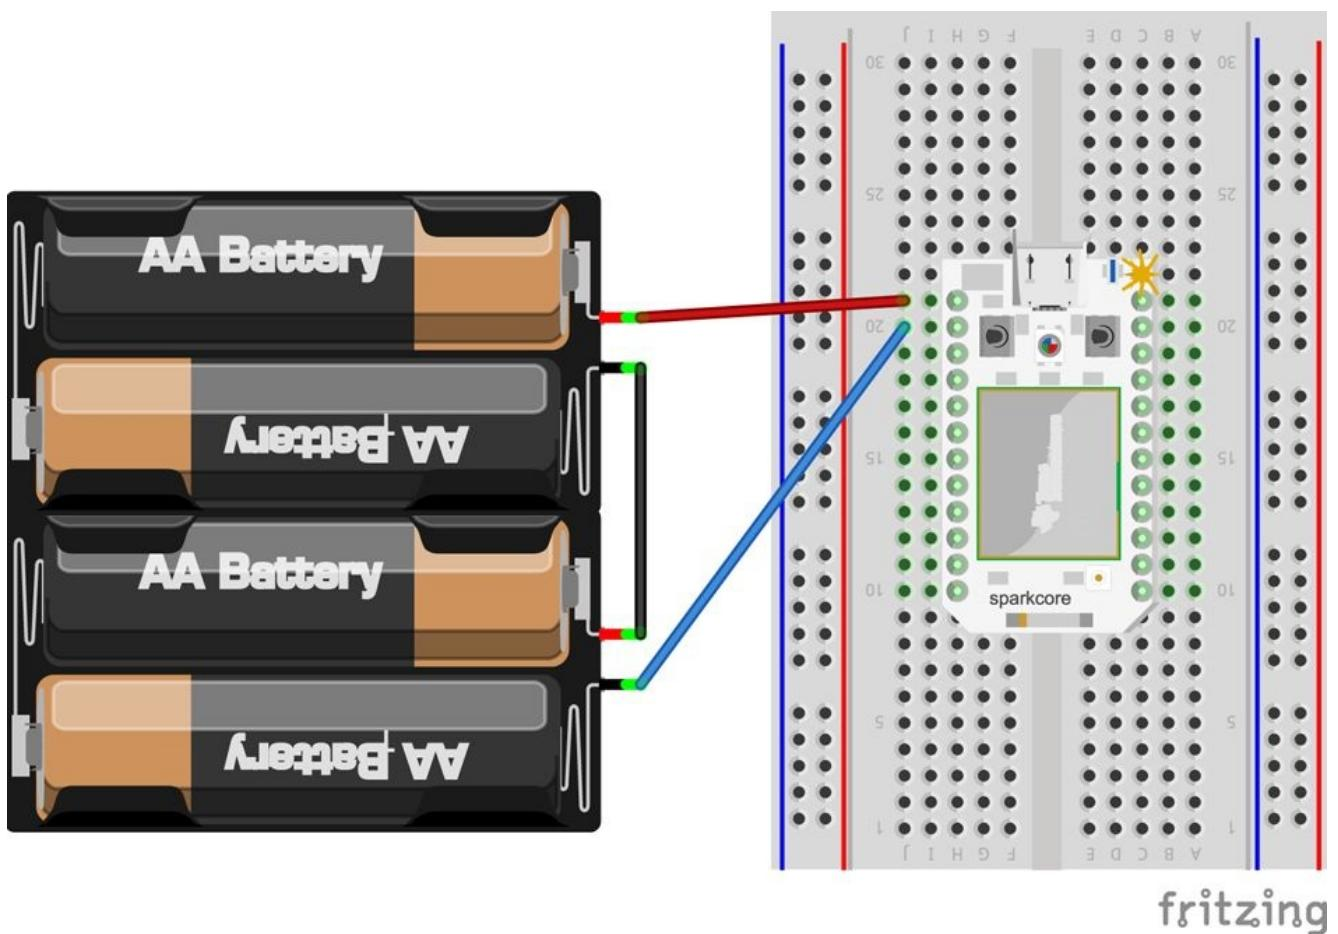

Figure 3-15. Wiring for Spark test
3. Connect the black wire from the battery pack to GND on the Spark. If you hold the Spark so that the USB port is facing up, VIN and GND will both be on the top left of the board. Figure 3-15 shows how it should be wired.